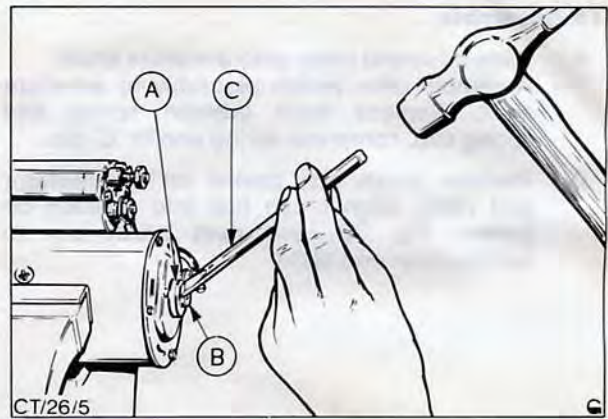

Fig. 35. Removing star retaining clip
2. Remove 'star' retaining clip from end of armature shaft. To remove clip, position a small chisel at an angle of 45° to the armature shaft, Fig. 35, and carefully distort prongs of star clip until clip can be removed, discard clip after removal.